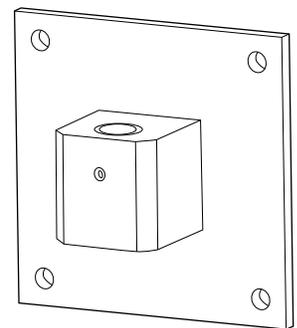

Figure 1
- 2. Install vertical mount plate** (see Figure 1).